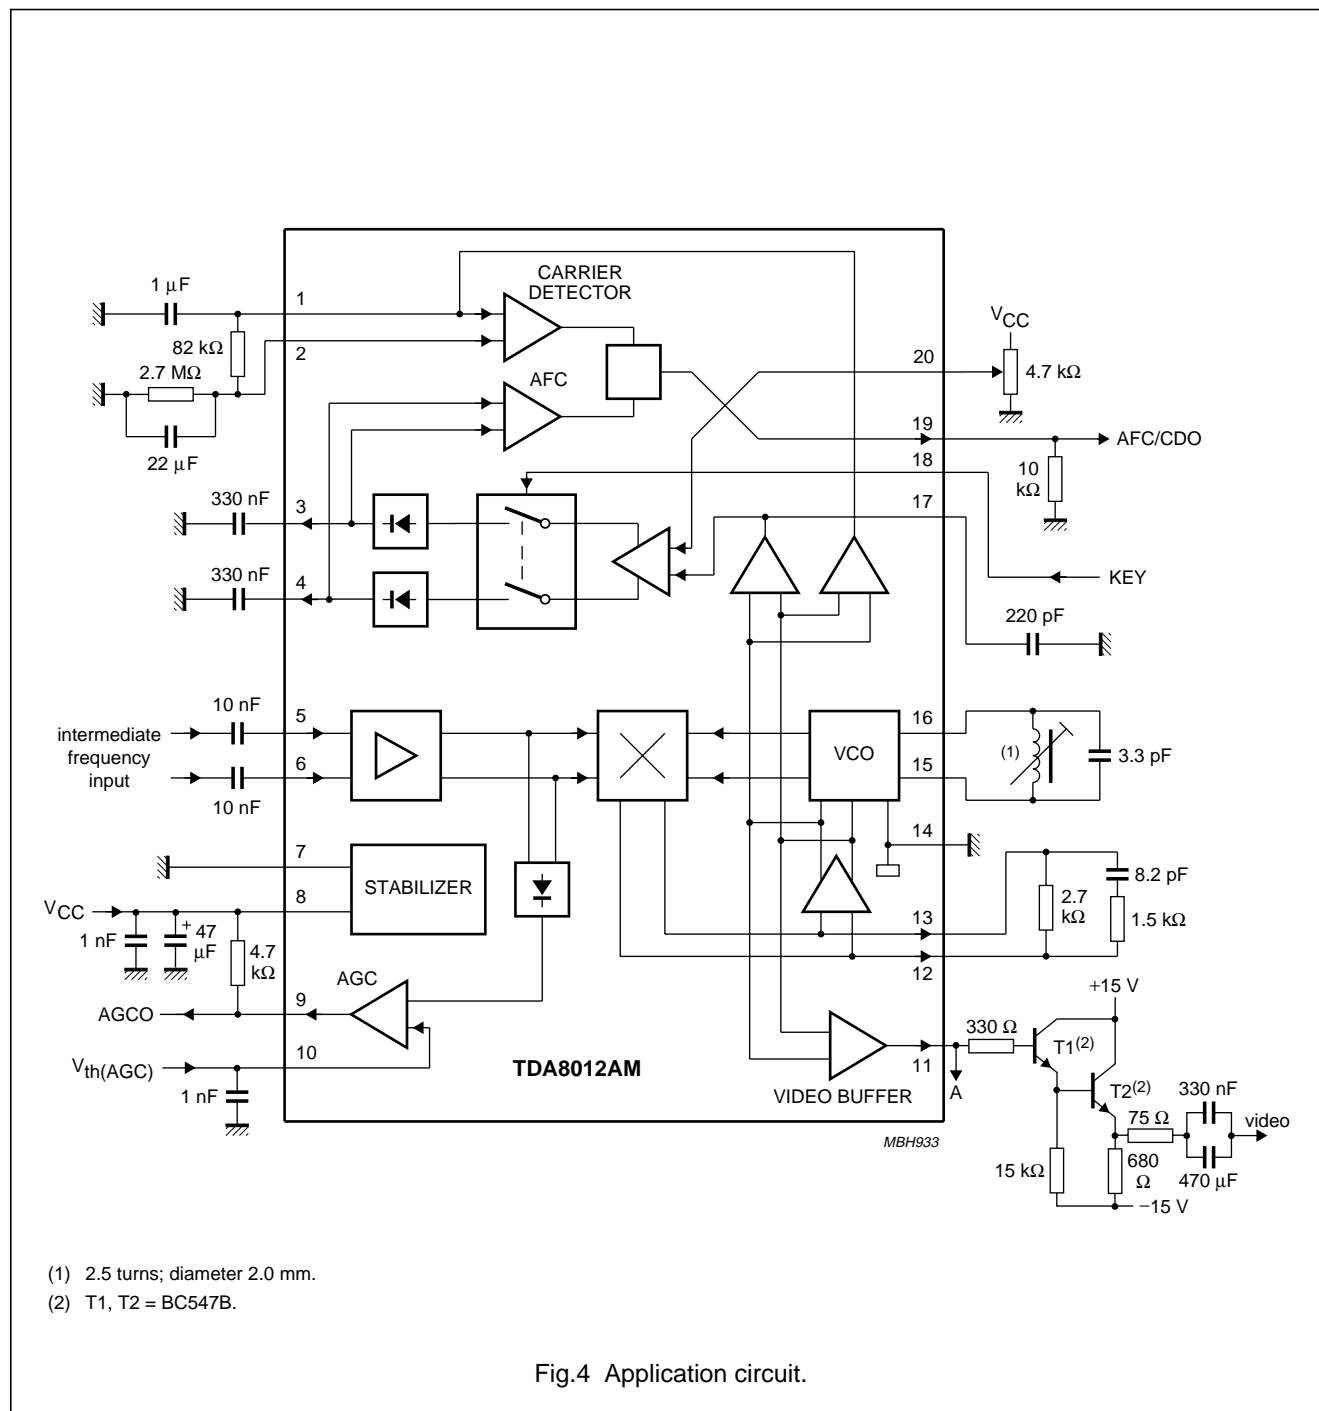

Fig.4 Application circuit.
2. The VCO frequency drift is defined as the change in oscillator frequency for a variation of ambient temperature, on the one hand from Tamb = 25 °C to Tamb = 0 °C and on the other hand from Tamb = 25 °C to Tamb = 50 °C. It is measured in the application of Fig.4 with the following component values for the tank circuit:
- e) Intermodulation distance is defined as the distance between the luminance signal and the intermodulation products. The video output spectrum is measured on pin 11 (point A of Fig.4) with a high resistance probe. The de-emphasis figure is obtained from the measured data by calculation.
- e) The video output spectrum is measured on pin 11 (point A of Fig.4) with a high resistance probe and a spectrum analyser.
12. The characteristics of the AGC function are measured in the application circuit of Fig.4. The circuit illustrated in Fig.4 has been designed to set the maximum AGC current to 1 mA. The output of the AGC function is capable of handling up to 5 mA. The maximum AGC current can be increased to 5 mA by decreasing the value of the resistor connected between pins 8 and 9.
14. In the application circuit (see Fig.4) the voltage at the AGC output decreases when the IF input level increases above the adjusted AGC threshold.